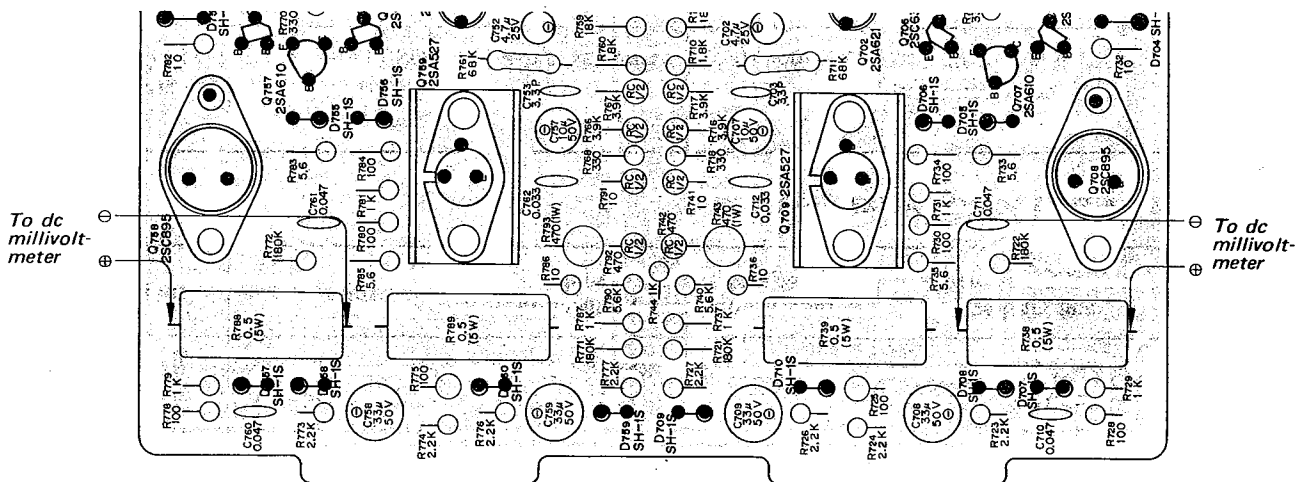

Fig. 3-16. Dc millivoltmeter connection
To avoid accidental power transistor damage, increase the ac line voltage gradually, using a variable transformer, while measuring the voltage across emitter resistor R738 or R788 as shown in Fig. 3-16.
2. Connect the dc millivoltmeter across emitter resistor R738 or R788 as shown in Fig. 3-16.